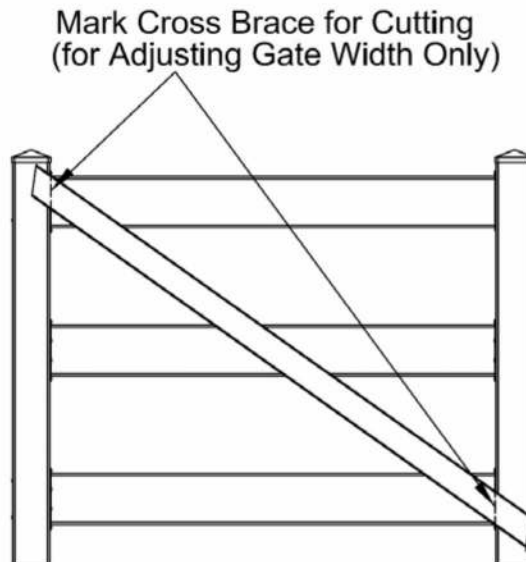

Fig. 7 Marking the Cross Brace for New Gate Width
- Mark Cross Brace for Cutting:** The cross brace will need to be re-cut to fit snugly in between the uprights. After squaring the gate, place the cross brace on the gate and mark the cross brace with a pencil as demonstrated in Fig 7.